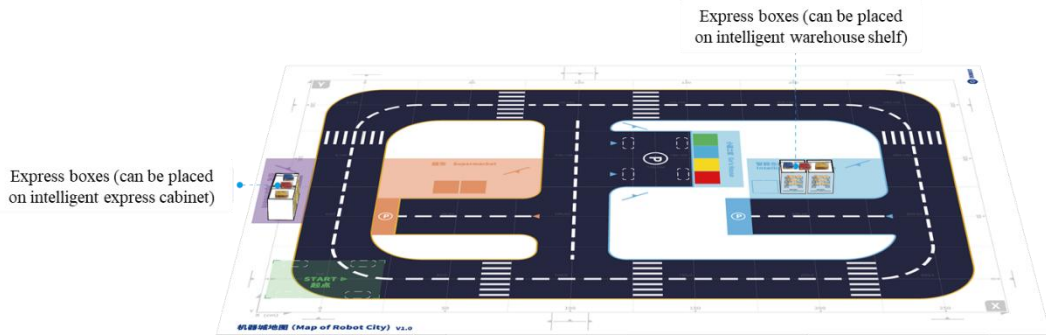

Figure 5.7 Position of express boxes
- Express boxes include international express, domestic express and Intra-city express, as shown in Figure 5.5. When simulating express delivery, please place the express according to the suggested position in Figure 5.7, and ensure that the express box is placed on the intelligent warehouse shelf or intelligent express cabinet.